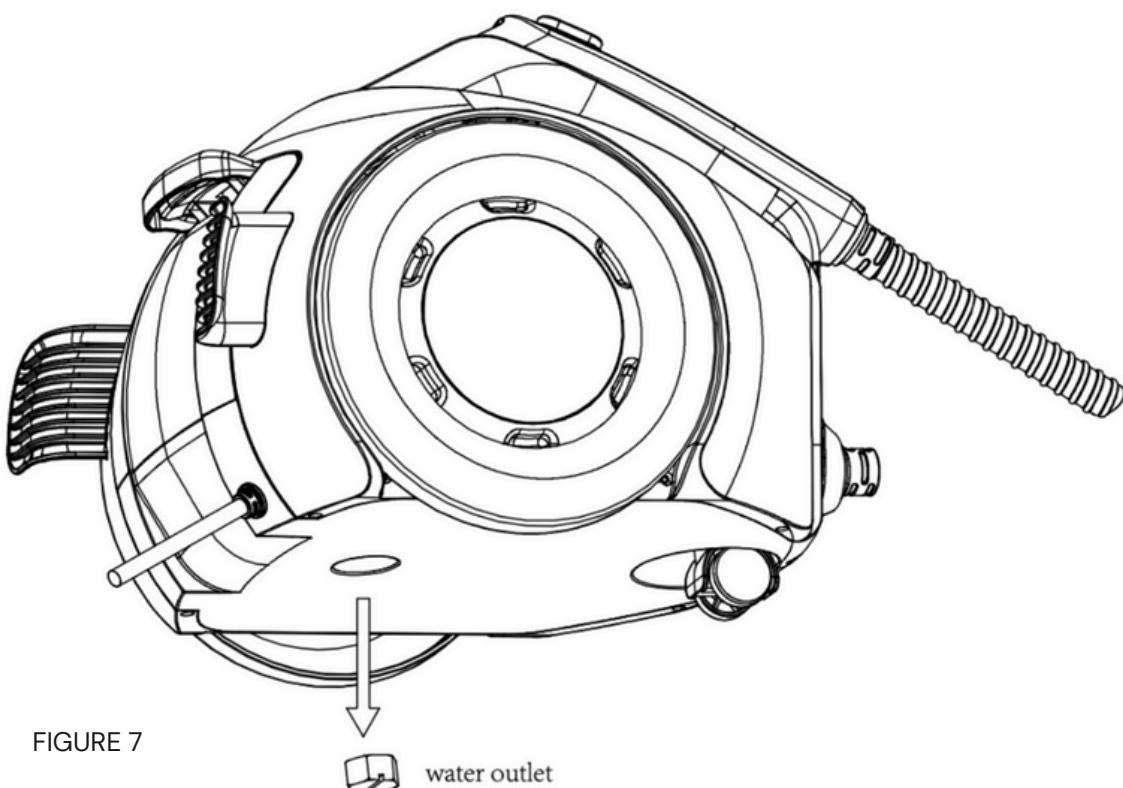

FIGURE 7
4. Remove the water tank cap at the bottom of the steam cleaner to empty the water tank. Do this in a bathtub or sink. See Figure 7. CAUTION: Failure to empty the water tank after use will cause limescale buildup which will reduce its life.